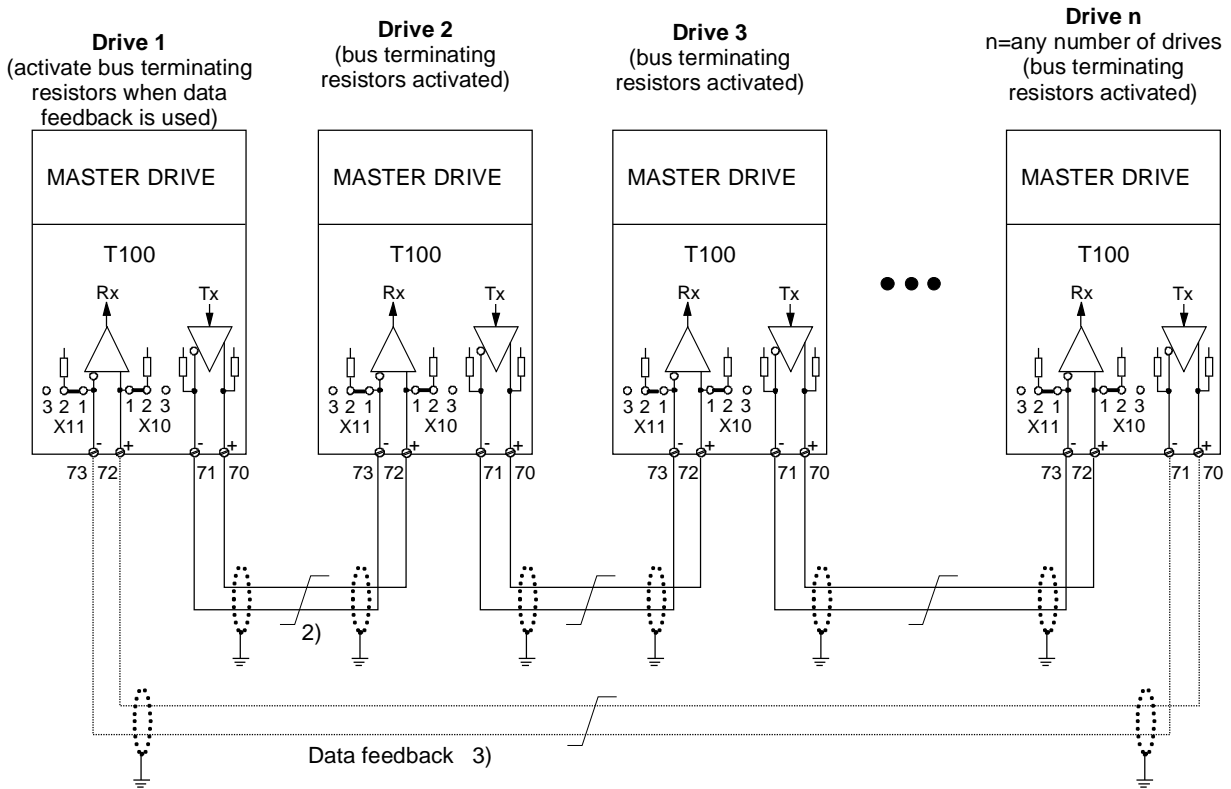

Fig. 3.6.2: Peer connection type "Series"
With the "Series connection" (Fig. 3.6.2), the first drive in the peer string can monitor the entire string if the transmit cable of the last drive is coupled back to the receive input of the first drive.
The peer-to-peer connection is flexible. Figs. 3.6.2 to 3.6.4 show the 3 possible types of peer-to-peer connection.
- The signals can flow through the drives in a **series connection** (Fig. 3.6.2); with this connection type, each drive processes the data as required before passing them on to one other drive (classic setpoint cascade).
- 1), 2): see Fig. 3.6.2
1), 2) see Fig. 3.6.2.